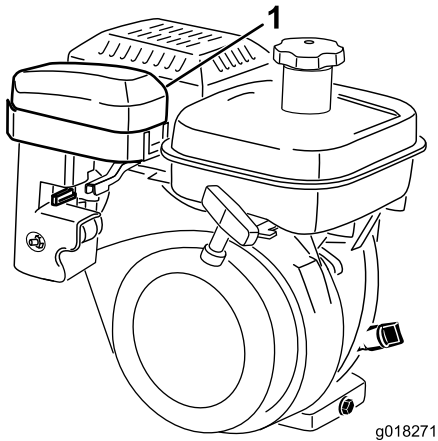
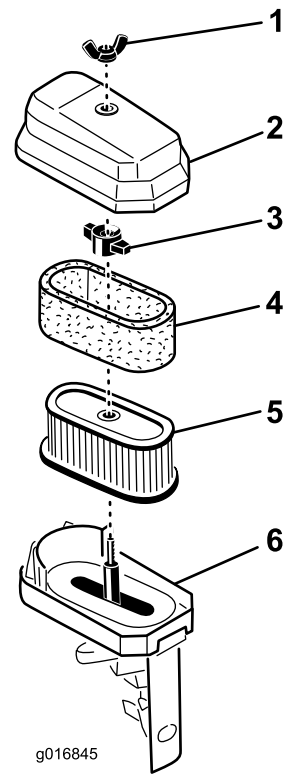

Figure 32
Figure 33
- Remove the wing nut securing the air cleaner cover to the air cleaner and remove the cover. Clean the cover thoroughly (Figure 32 and Figure 33).
- If the foam element is dirty, remove it from the paper element (Figure 33). Clean it thoroughly.